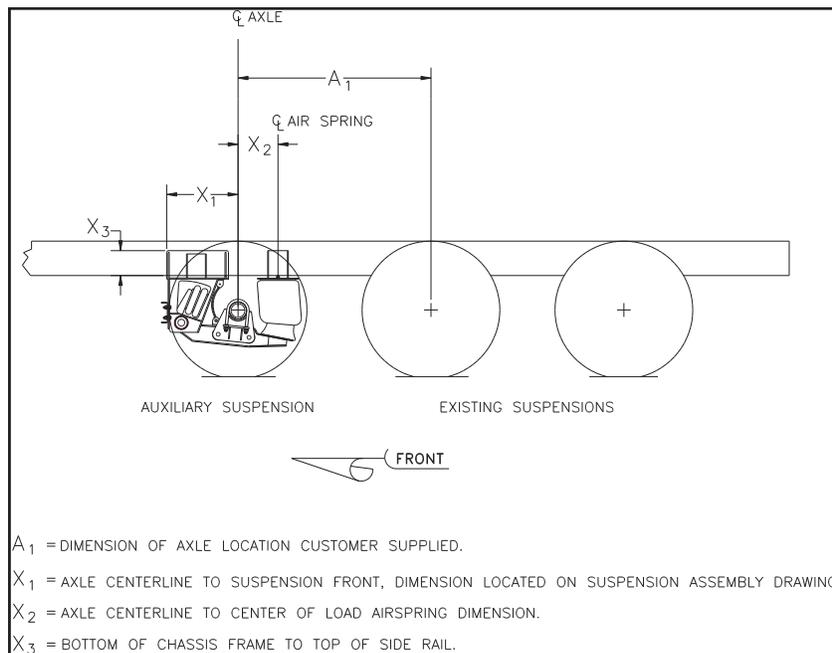

Figure 5-1
1. Determine the location of the auxiliary axle, mark the location of the center line of the axle on the outside of the vehicle frame rail. Refer to the suspension assembly drawing and mark the boundary areas of the auxiliary suspension mounting surfaces on the previously marked surfaces (See Figure 5-1). Again check for suspension clearance problems to truck components.